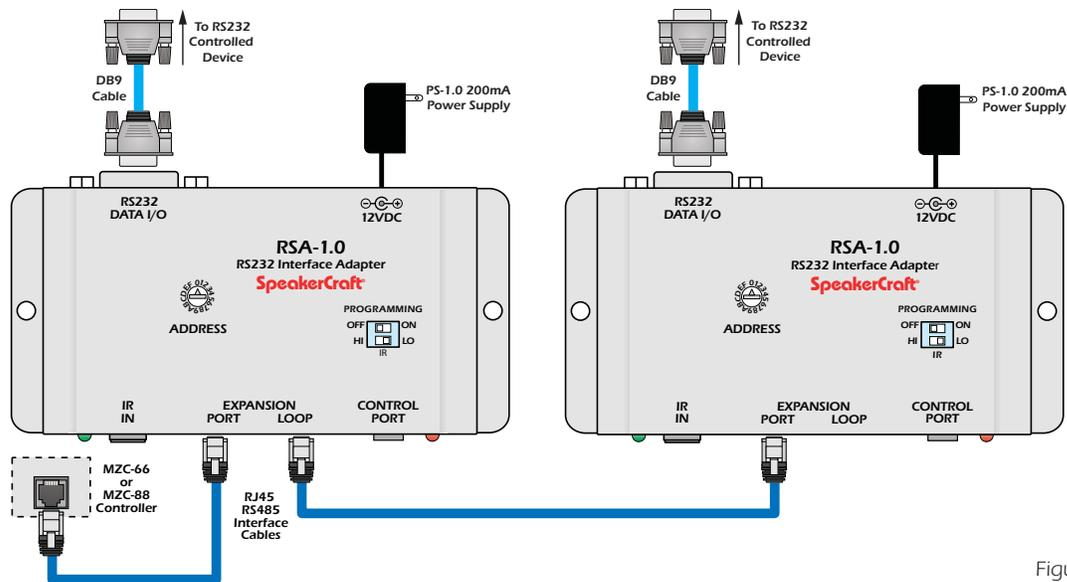

Figure 2
1. Using a properly terminated CAT-5 cable (pass-through, pin to pin configuration) connect the **Expansion Loop** on a SpeakerCraft MZC-66/88 to the **Expansion Port** on a RSA-1.0. **(Refer to Figure 2)**
2. Using a properly configured DB9 cable to connect the **RS 232 DATA I/O Port** on the RSA-1.0 to an appropriate RS 232 Data I/O Port on the device being controlled. **(Refer to Figure 2)**
3. If using multiple RSA-1.0s using a properly terminated CAT-5 cable (pass-through, pin to pin configuration) connect the **Expansion Loop** on a RSA-1.0 to the Expansion Port on the next RSA-1.0. **(Refer to Figure 2)**
4. Using properly configured DB9 cables (pass-through, pin to pin configuration) connect the **RS 232 DATA I/O Ports** on the RSA-1.0s to the appropriate RS 232 Data I/O Ports on the devices being controlled. **(Refer to Figure 2)**
5. When all other connections have been made and the system is ready for programming/operation, connect a SpeakerCraft **PSA-1.0 12VDC 200mA Power Supply** to the **12VDC Power Jack** on each RSA-1.0. **(Refer to Figure 2)**